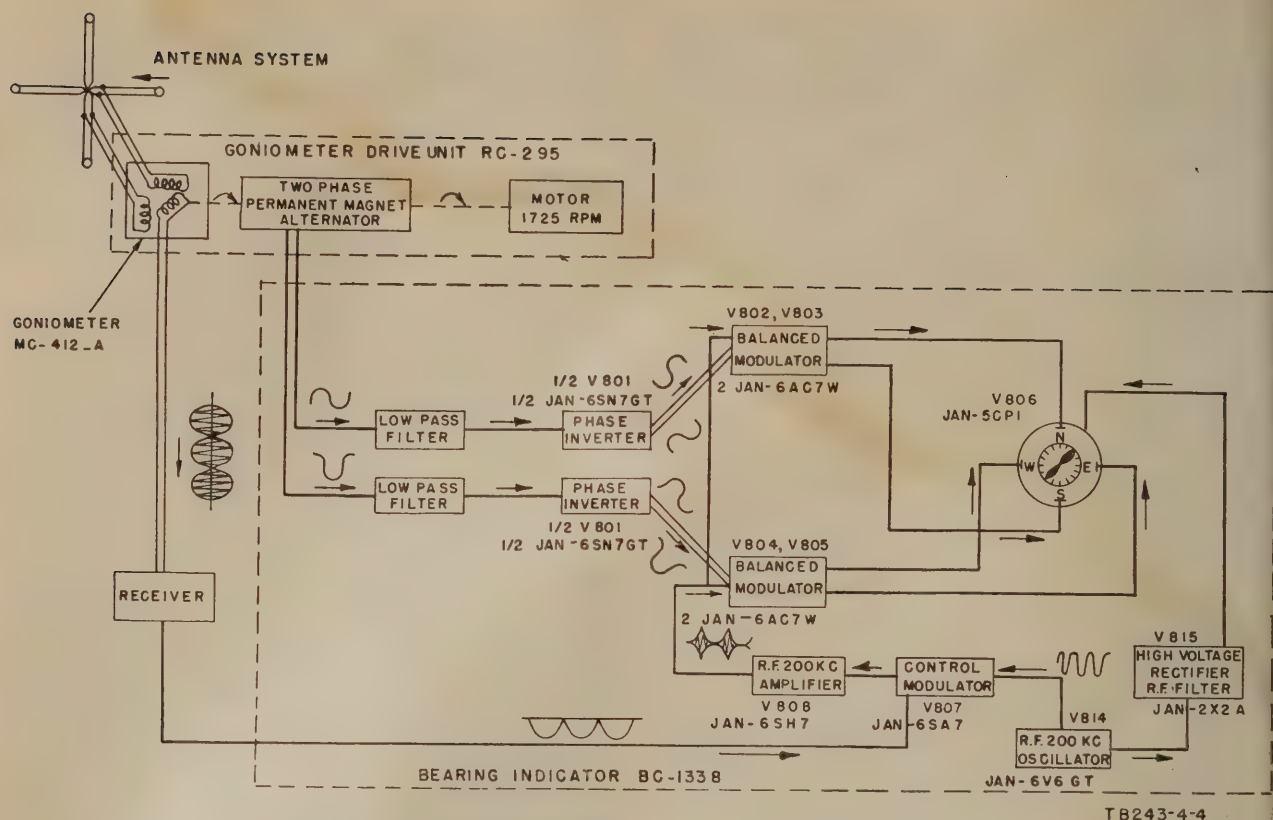

Figure 202. Bearing Indicator Kit MC-551, block diagram.
tampered with the better, except to clean it, locate trouble, and correct for short or open circuits. In the event of trouble which has been traced to a particular component, first check the tubes and then analyze the circuit voltages and resistances (fig. 202).
Figure 202 shows the signal paths through the indicator kit. The outputs from the corner antennas are applied to their respective stators in Goniometer MC-412-A. The goniometer rotor
- (1) Block diagram of Bearing Indicator Kit MC-551 (fig. 202).